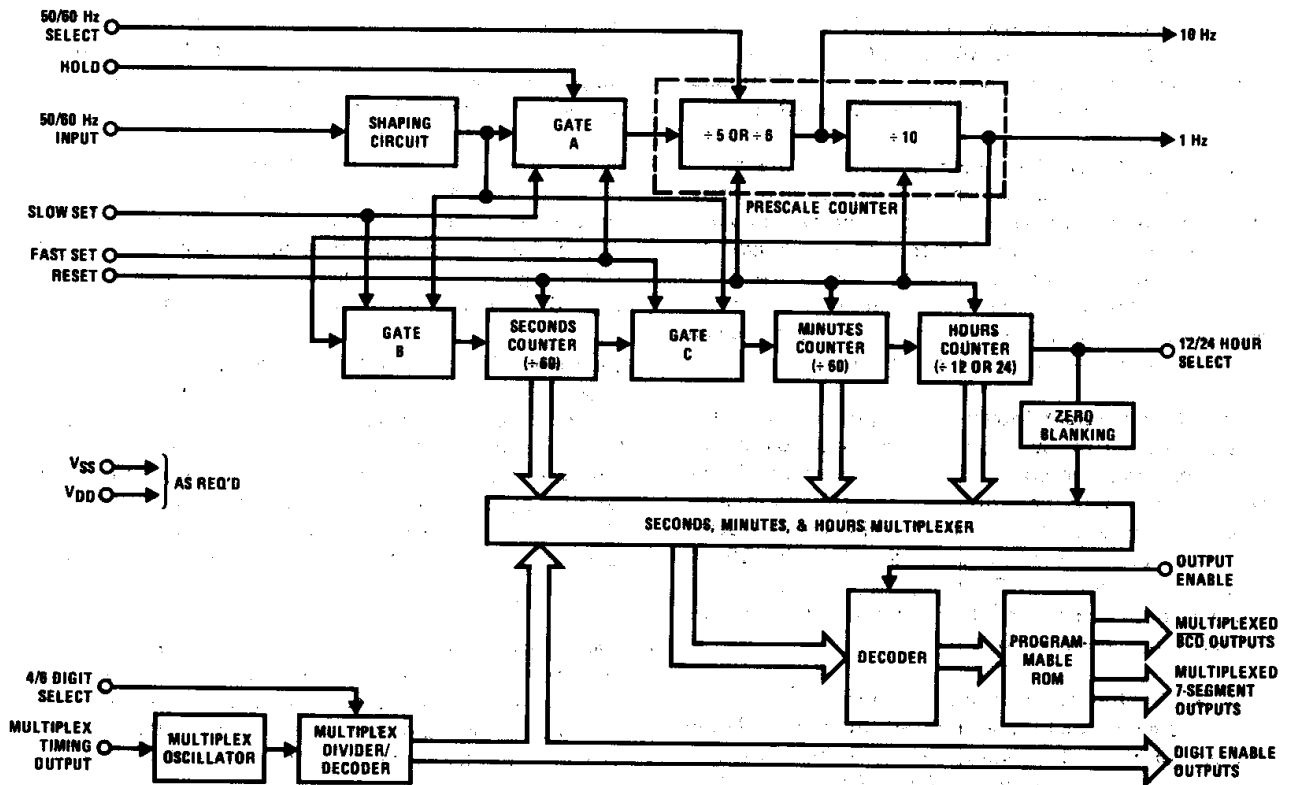

FIGURE 1. MM5309 Digital Clock Block Diagram
A block diagram of the MM5309 digital clock is shown in *Figure 1*. MM5311, MM5312, MM5313, MM5314 and MM5315 clocks are bonding options of MM5309 clock. Table I shows the pin-outs for these clocks.
**50 or 60 Hz Select Input:** This input programs the prescale counter to divide by either 50 or 60 to obtain a 1 Hz timebase. The counter is programmed for 60 Hz operation by connecting this input to VDD. An internal depletion device is common to this pin; simply leaving this input unconnected programs the clock for 50 Hz operation. As shown in *Figure 1*, the prescale counter provides both 1 Hz and 10 Hz signals, which can be brought out as bonding options.
The three gates in the counter chain (*Figure 1*) are used for setting time. During normal operation, gate A connects the shaper output to a prescale counter ( $\div 50$  or  $\div 60$ ); gates B and C cascade the remaining counters. Gate A is used to inhibit the input to the counters for the duration of slow, fast or hold time-setting input activity. Gate B is used to connect the shaper output directly to a seconds counter ( $\div 60$ ), the condition for slow advance. Likewise, gate C connects the shaper output directly to a minutes counter ( $\div 60$ ) for fast advance.